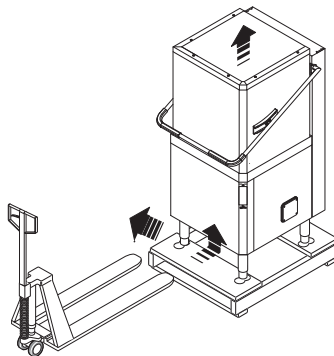

Figure 6 Machine positioning
- Lift the appliance using a lift truck, remove the base and position the appliance where it is to be installed (Figure 6).